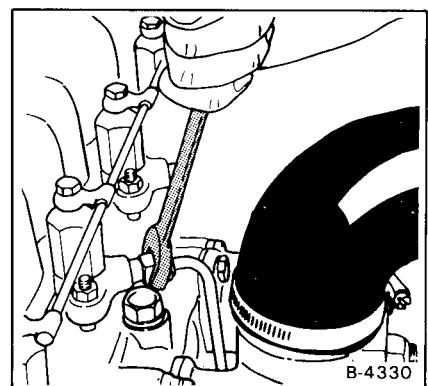

Fig. 1-16 Fuel Injectors
- (8) Close the vent plug on the injection pump before releasing the hand pump.
- (9) Loosen the high pressure tubelines at the fuel injectors (Fig. 1-16).
- (10) Move the throttle to the half open position. Turn the engine with the starter until clear fuel shows at the fittings of the injectors.